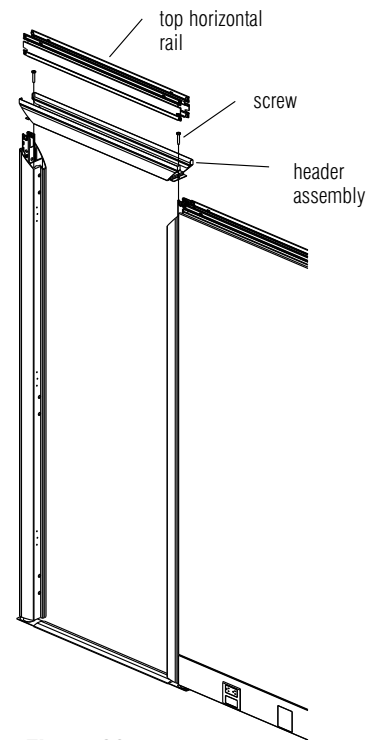

Figure 20
5. Align the header assembly with the jambs attached to the vertical posts. Holes in the brackets at each end of the header assembly should line up with the threaded inserts in the extra tab of the top jamb brackets. Use the screws provided to attach each header bracket to the top jamb brackets. **Figure 20.**
6. Install the top horizontal rail to the vertical posts through the installed door header. **Figure 20.**